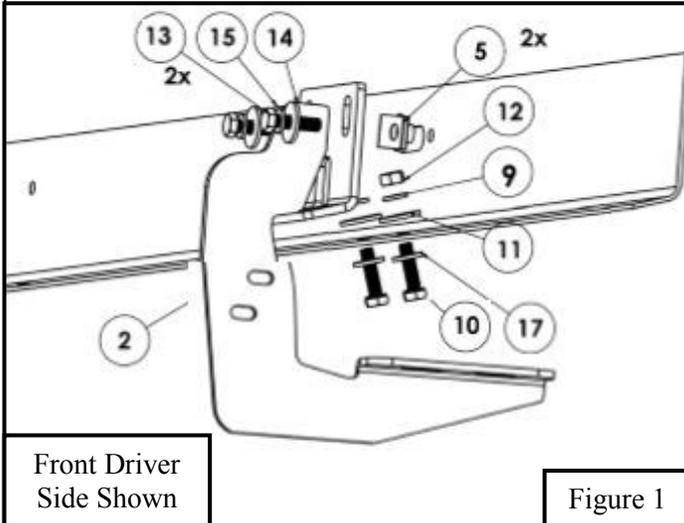

Figure 1
2. Start installation on driver's side. On the rocker panel find locations with factory holes to insert (2) M8 u nut-clips (Item 5) at all mounting locations for SuperCab applications, for Super Crew applications only (1) M8 u nut-clip (Item 5) is needed for center mounting brackets. **See Figure 1 and 2** (Note: SuperCab will have 6 mounting brackets and SuperCrews will have 4 mounting brackets and 2 center brackets.)
3. Hold up mounting bracket (Item 2) and loosely install (1) M8 hex head cap screw (Item 13), (1) M8 lock washer (Item 15), and (1) M8 flat washer (Item 14) **SEMS hardware** into previously installed M8 nut clips. Then loosely install M8 hardware to mounting bracket and holes in the pinch weld; (1) M8 hex nut (item 12), (1) lock washer (item 9), (2) M8 flat washers (item 11), and (1) M8 hex head cap screw (Item 10). Similar installation for center mounting bracket. **See Figure 1 and 2.**